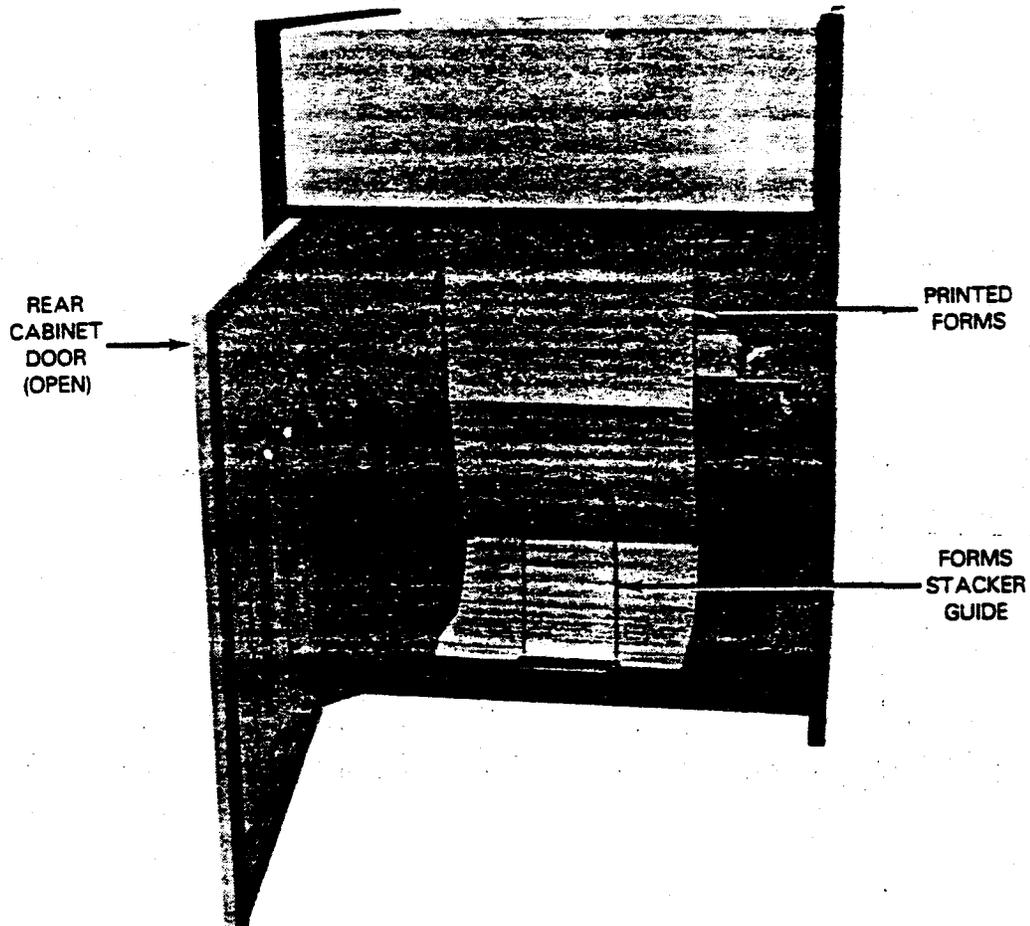

Figure 4-11. Putting the 0789 Printer Online
33. Open the rear cabinet door (Figure 4-11) and set the forms stacker guide to accommodate even stacking for the form size to be printed. Then, close the cabinet door.